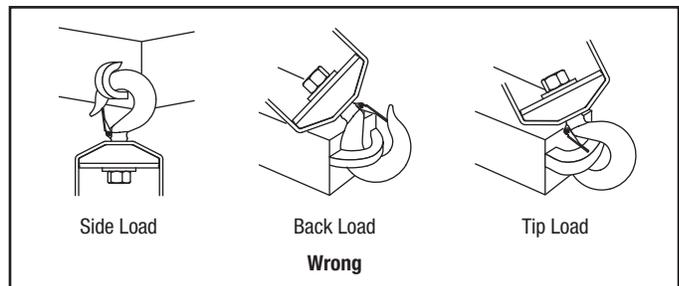

Figure 2
- Never tip load, side load, or back load a hook. (See Figure 2.)